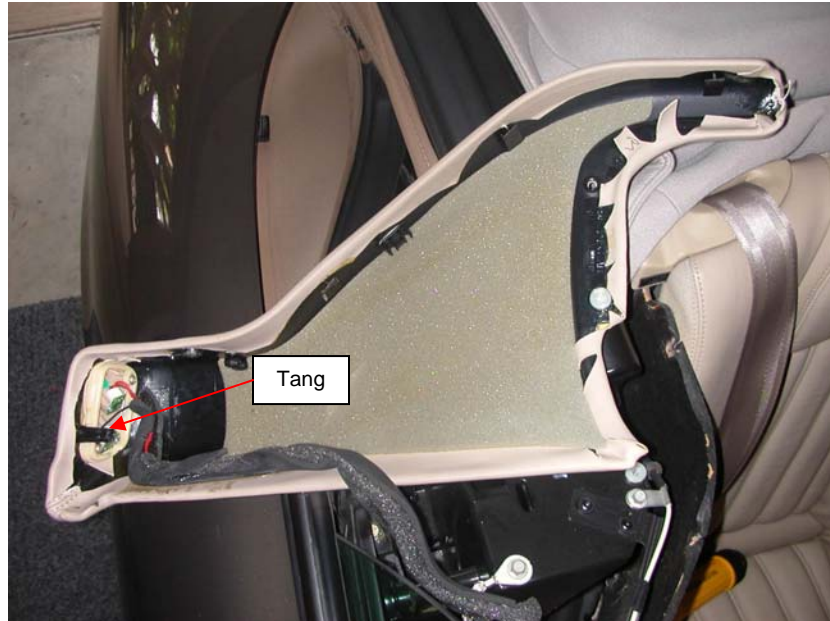

Fig. 4 Underside of rear quarter capping showing tang
2. Remove (a) the screw covered by the seat belt bracket, (b) the screw on the rear of capping, and (c) the 9-mm tonneau-cover fastener. Lift the capping off and disconnect the lead to the airbag passenger sensor, if your car has one. Note that there was a tang on my capping that keeps its front edge in place (see Fig. 4). I didn't realize this when I removed the capping, but fortunately I didn't break it off during removal. It was a bit tricky to reinstall the capping later due to the need to ensure the tang was positioned in its hole in the B post. Earlier XK8s have a screw where the passenger position sensor is located and thus may not have the tang.